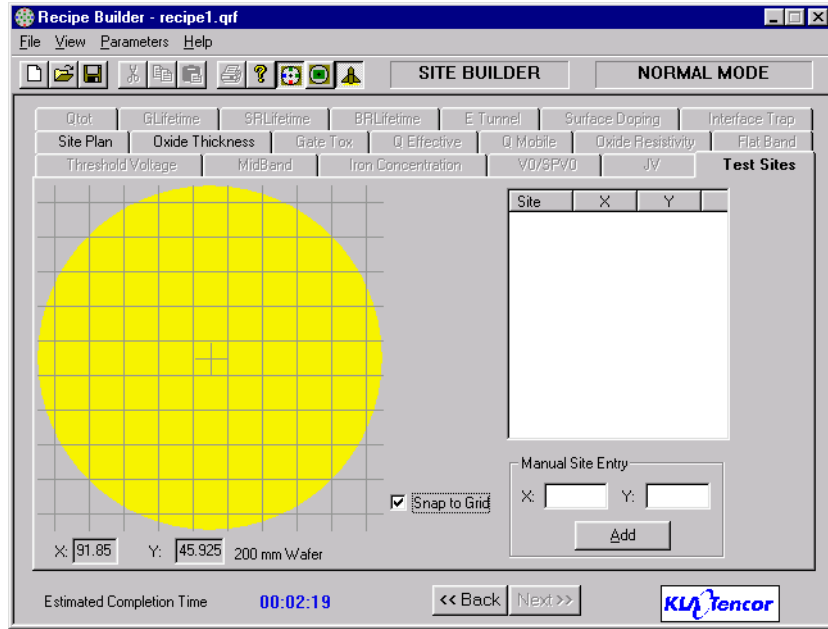

Figure 3-12: Test Sites
1. Confirm that the wafer size displayed below the wafer graphic on the Test Sites Tab is correct (Figure 3-12).